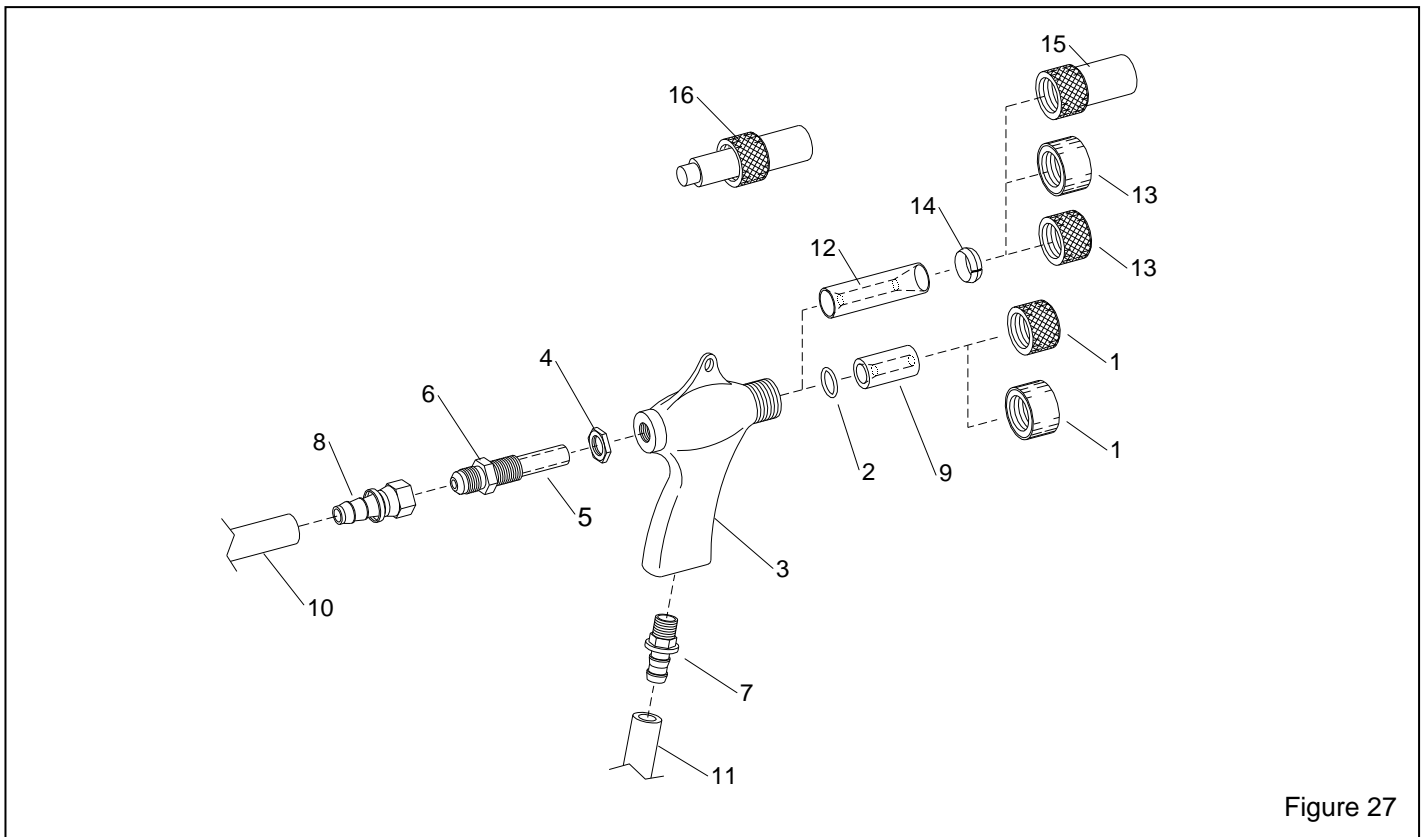

Figure 27
**9.3 BNP Gun and Feed Assembly, Figure 27**